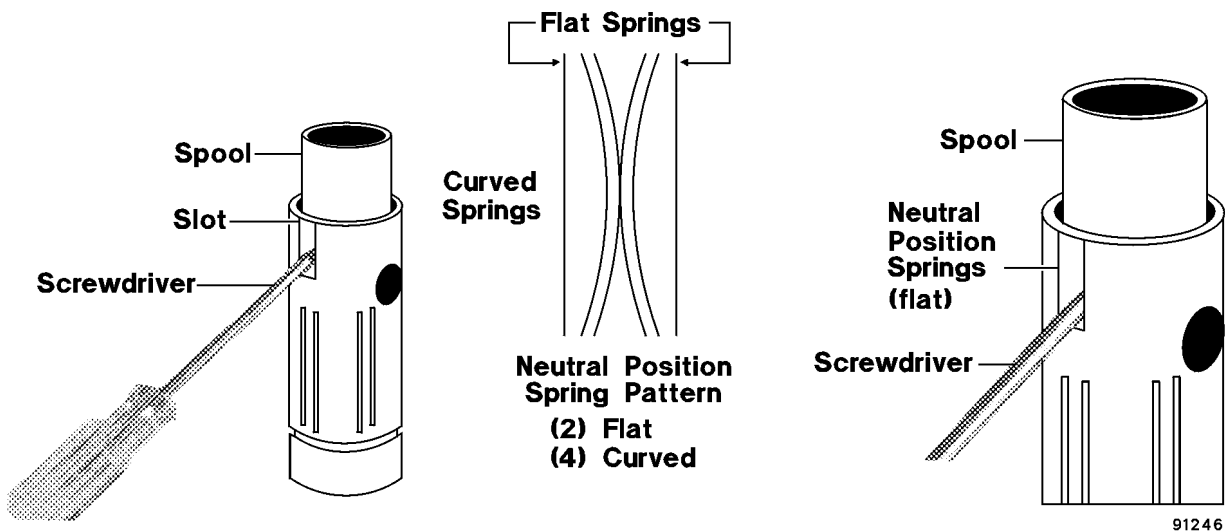

FIGURE 5-14. NEUTRAL POSITION SPRING INSTALLATION
1. To install the neutral position springs, place a screwdriver in the spool slot as shown in Figure 5-14.